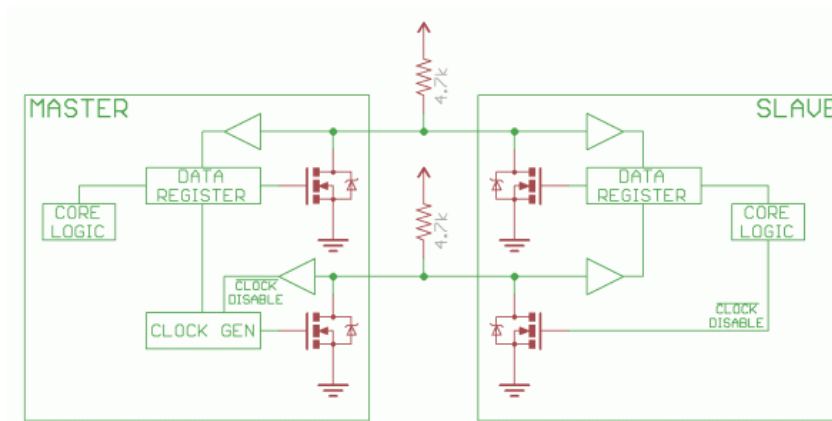

Figure 2: 'Pull up' resistors and transistor switches
- Master and slave bus drivers are "open drain" (figure 2):